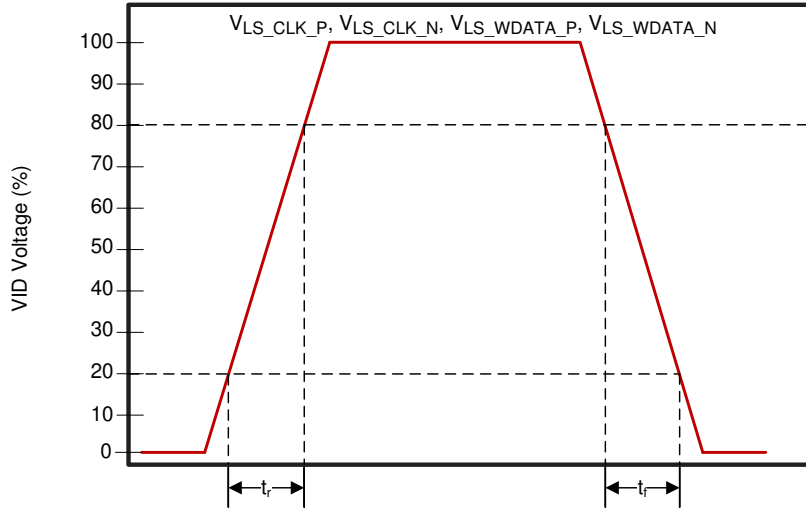

Figure 6-6. LSIF Rise, Fall Time Slew Rate
(2) See Figure 6-6 for rise and fall time for LSIF.